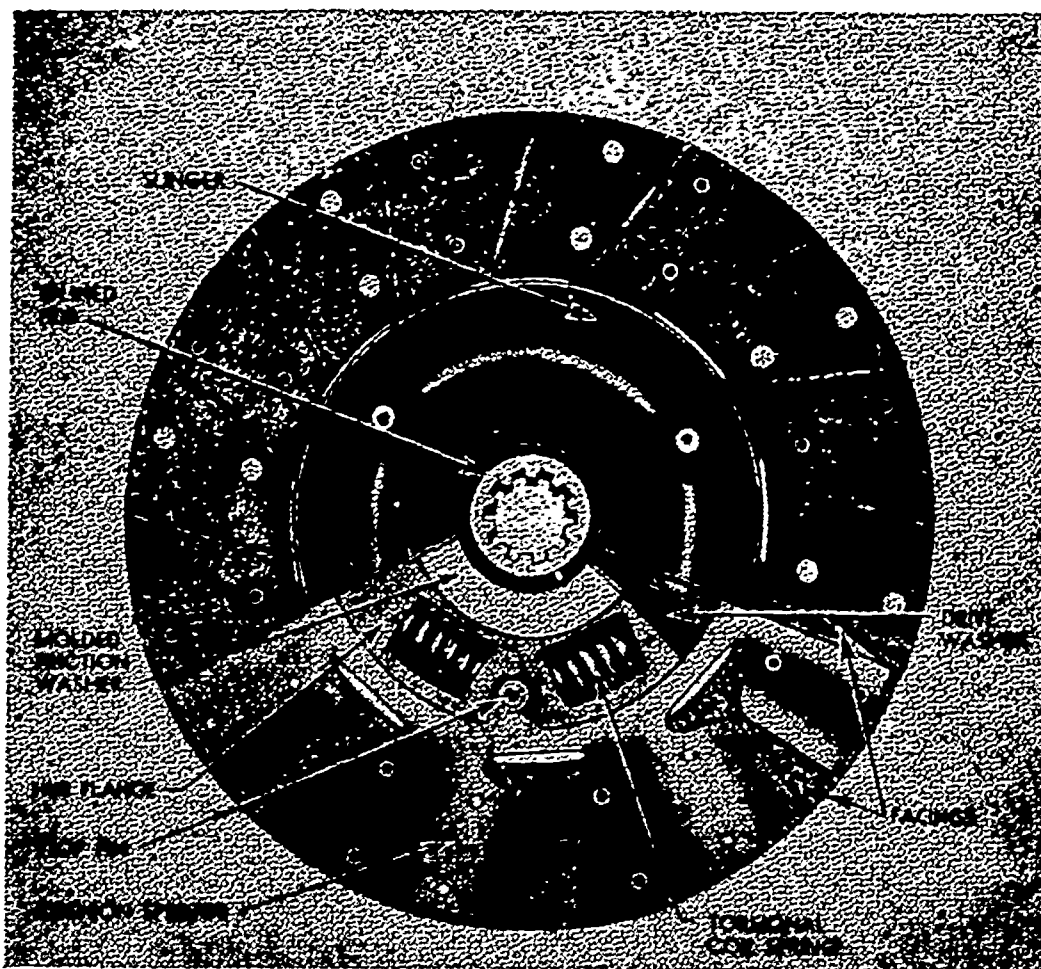

Fig. 12 Friction disk or driven plate
**FRICITION DISK** -- The friction disk (see Figure 12) consists of a hub and plate assembly, to which is attached a series of facings. The disk usually includes a cushioning device as well as a dampening device. The cushioning device provides a cushioning effect as the clutch is engaged, so that smoother engagement results. The cushion springs, to which the facings are mounted, (see Figure 12) provides this effect by compressing slightly as the clutch engages, thus preventing a shock to the power train.